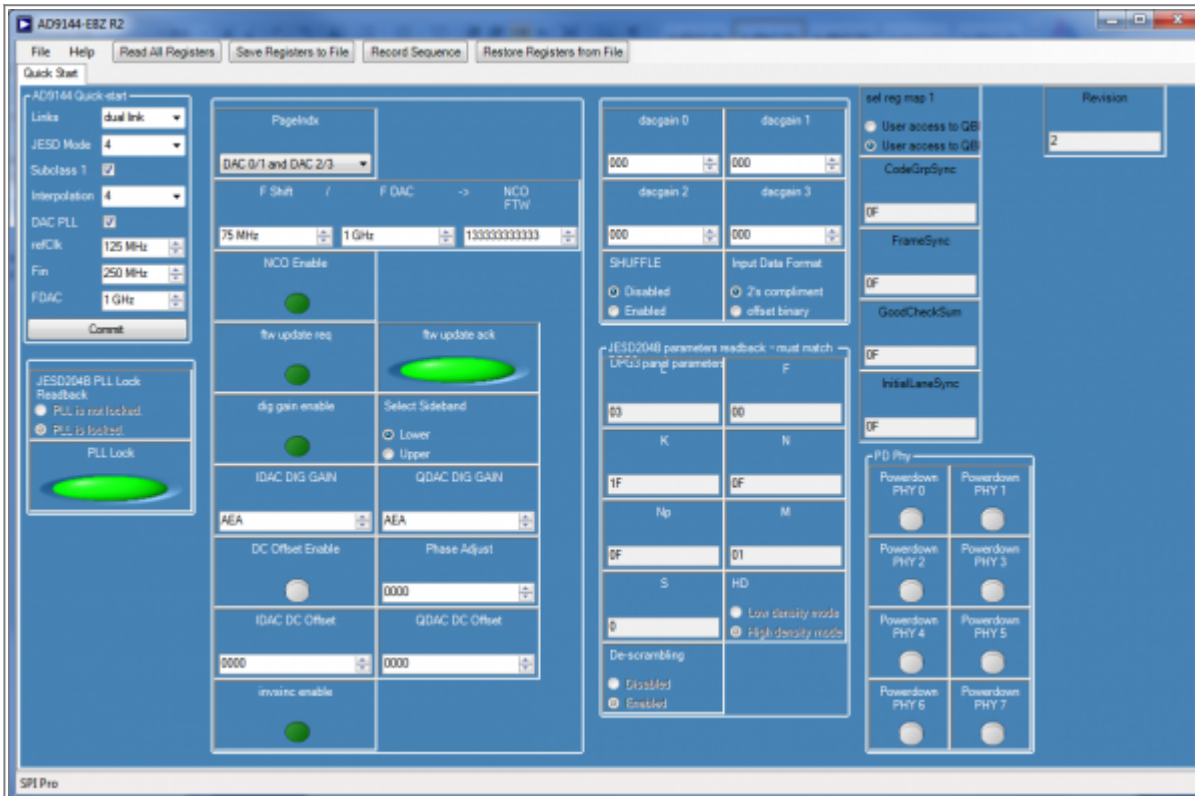

Figure 7. SPI Setting for using NCO
1. The NCO is used by loading the FDAC to 1GHz and selecting the shift frequency, for this example we will use 75MHz. The click the NCO Enable button, the NOC FTW will change from 00000 to 13333333.xt click the ftw undate req button, the ftw update light should turn bring green at this pointSee Figure 7